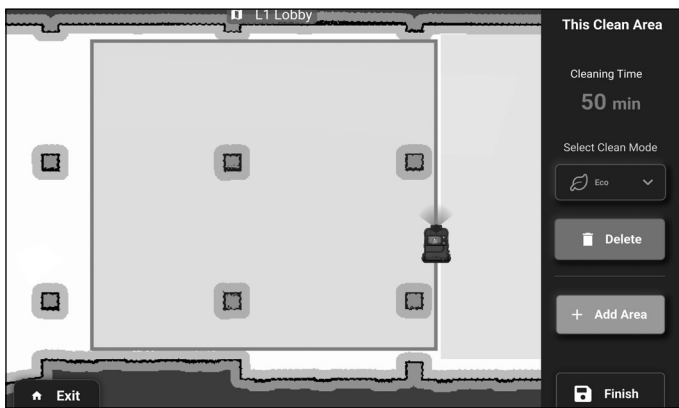
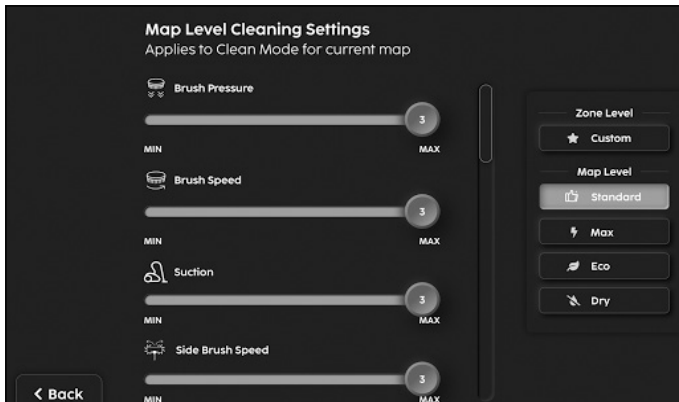

Figure 35
Figure 36
16. Select the preferred cleaning mode from the dropdown menu (**Fig. 35**), (**Fig. 36**).